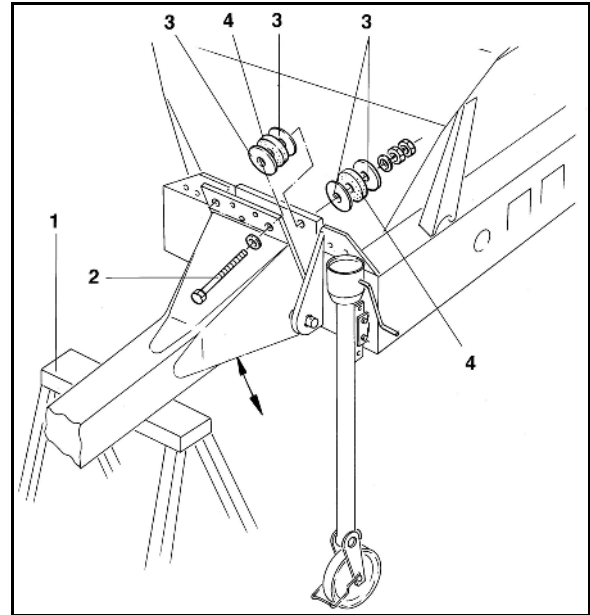

Fig. 78
2. Support the drawbar on a stable trestle (Fig. 78/1) and unscrew both securing screws (Fig. 78/2).
3. The spacer discs (Fig. 78/3) can be turned evenly to adjust the drawbar. The buffers (Fig. 78/4) must not be removed. They absorb any impact transferred from the tractor to the spreader.